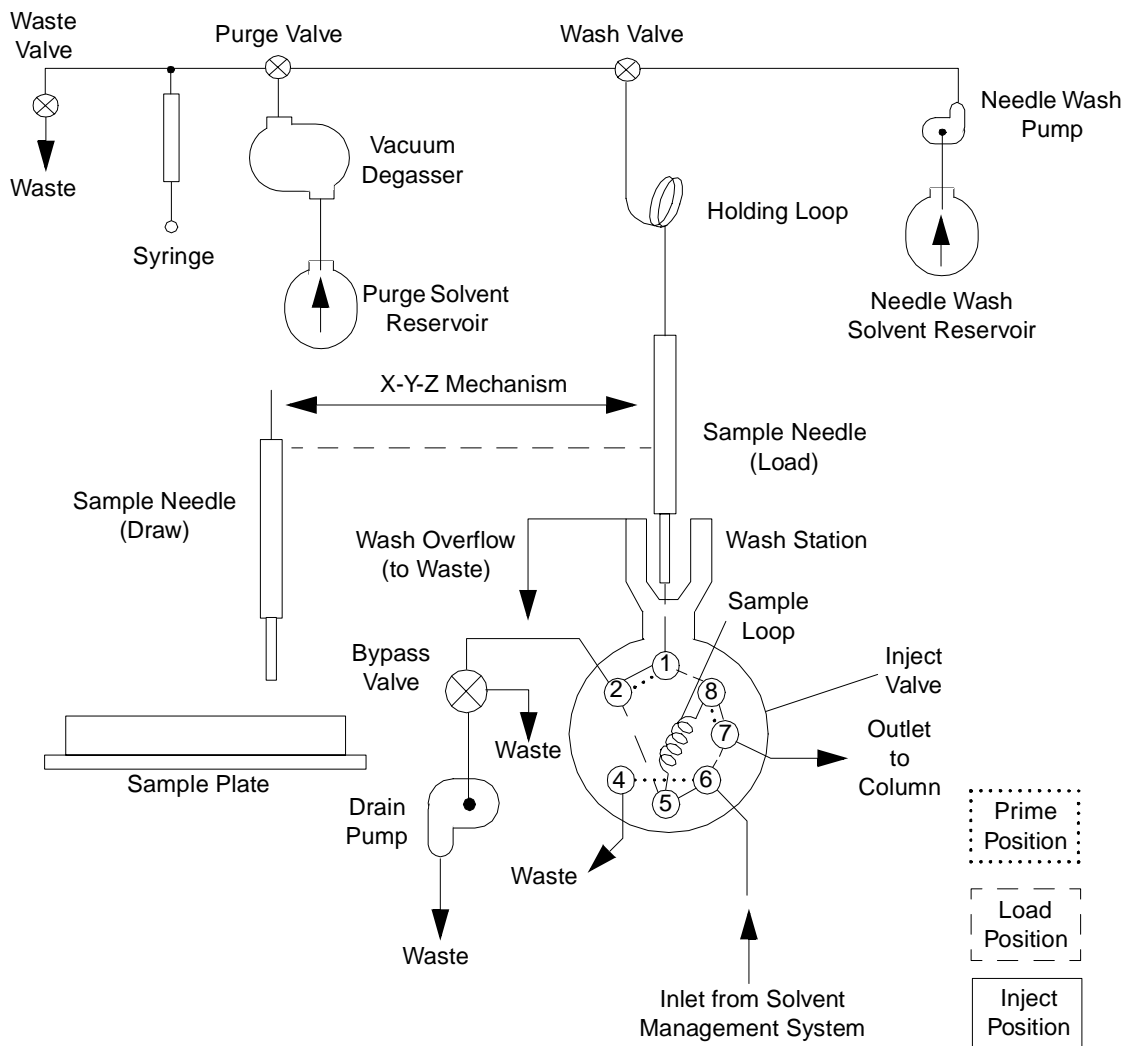

Figure 1-4 Sample Management Fluidic Path
The mobile phase and wash solvent paths through the sample management system (Figure 1-4) vary according to what procedures are being performed. When the 2795 Separations Module is:
- **Loading a sample** – The Load position of the inject valve (Figure 1-4) isolates the sample loop from the solvent fluidic path to the column and allows solvent to flow through the inject valve to the column.
- **Injecting a sample** – The Inject position of the inject valve (Figure 1-4) connects the sample loop to the solvent flow. Two types of injection are available, full loop and partial loop.
- **Bypassing solvent flow** – During priming of the solvent management system and during rapid equilibration, solvent flows through a bypass valve to waste (Figure 1-4).